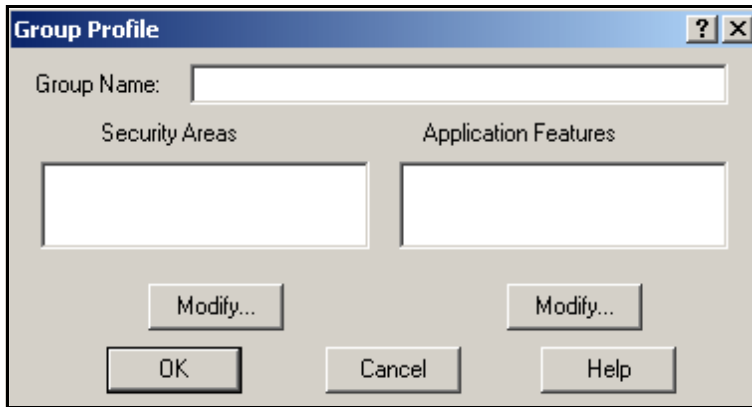

Figure 26: Group Profile Window
3. From the Group Accounts option, click the Add button. The Group Profile window (Figure 26 on page 41) opens.